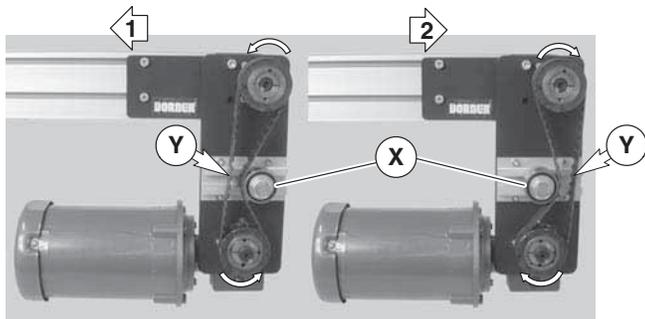

Figure 11
- Depending on conveyor belt travel (direction 1 or 2), locate timing belt tensioner (Figure 11, item X) as shown. Tension timing belt to obtain 1/8" (3 mm) deflection for 6 lb (3 Kg) of force at timing belt mid-point (Y). Tighten tensioner screw to 110 in-lb (12 Nm).
3. Depending on conveyor belt travel (direction 1 or 2), locate timing belt tensioner (Figure 11, item X) as shown. Tension timing belt to obtain 1/8" (3 mm) deflection for 6 lb (3 Kg) of force at timing belt midpoint (Y). Tighten tensioner screw to 110 in-lb (12 Nm).
5. Depending on conveyor belt travel (direction 1 or 2), locate timing belt tensioner (Figure 11, item X) as shown. Tension timing belt to obtain 1/8" (3 mm) deflection for 6 lb (3 Kg) of force at timing belt midpoint (Y). Tighten tensioner screw to 110 in-lb (12 Nm).